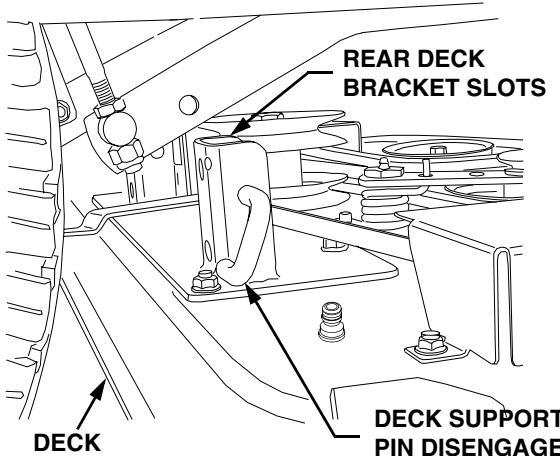

Figure 47
- If not already done, pull the deck support pins outward, turn downward and release so both spring-loaded pins are held in the disengaged position against the outer surface of the deck brackets (See Figure 47).